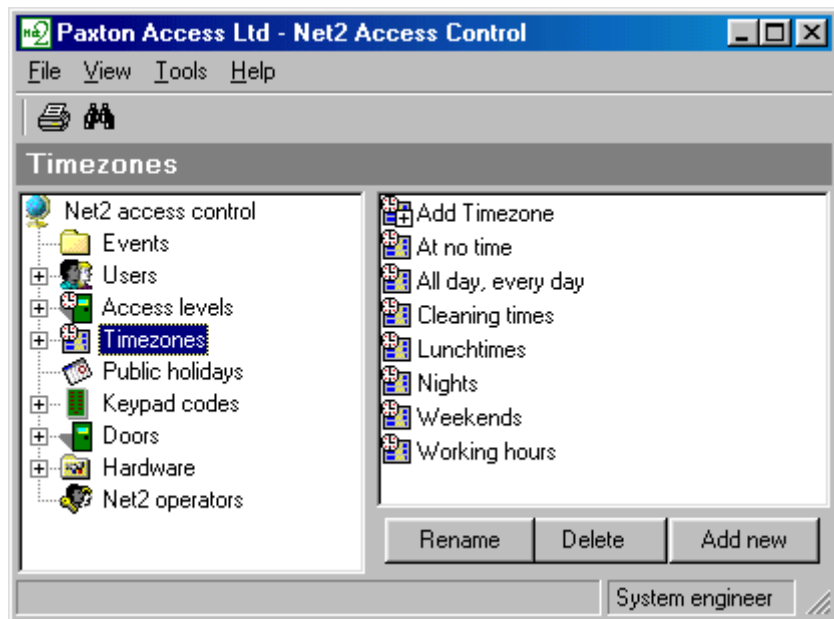

Figure 4.4
1. Double click on **Add Timezone**, see figure 4.4.